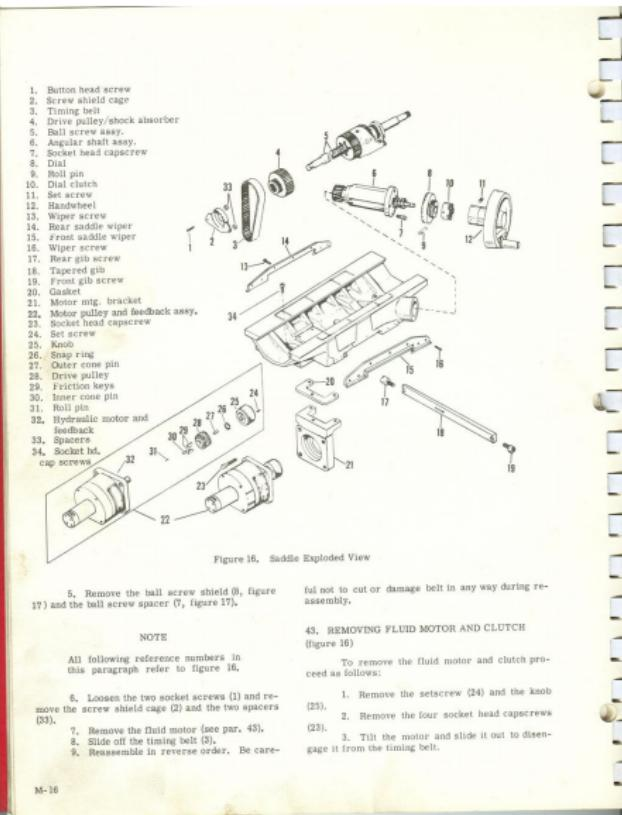
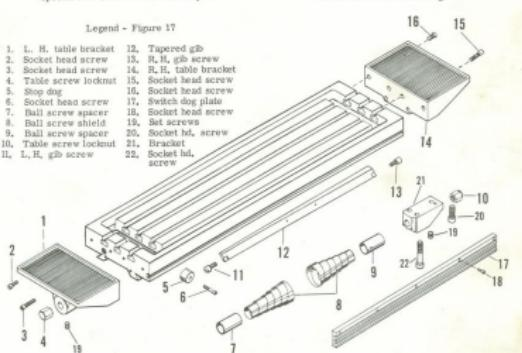

Figure 16. Saddle Exploded View
Figure 17. Removing Table
### 39. TAPERED GIB (figure 16)
### 40. ANGULAR HANDFEED SHAFT (figure 16).
### 42. REMOVING LONG. FEED DRIVE BELT (figures 16 & 17)
1. Remove the two table screw locknuts (4 & 10, figure 16). Loosen set screws (19, fig. 17).
2. Compress the two table screws (4, figure 17) and hold them compressed with a piece of wire.
3. Remove the stop dog (5, figure 16) and the left table end bracket (1, figure 17) by removing the four cap screws (3, figure 17).
Slide the table to the right to expose the nut on the tail screw assembly (5, figure 16). It is good practice to support the extended end of the table.
5. Remove the ball screw shield (8, figure 17) and the ball screw spacer (7, figure 17).
All following reference numbers in this paragraph refer to figure 16.
#### 43. REMOVING FLUID MOTOR AND CLUTCH (figure 16)
### 46. GIB (Figure 17)
Legend - Figure 17
### 47. TABLE (figure 17)